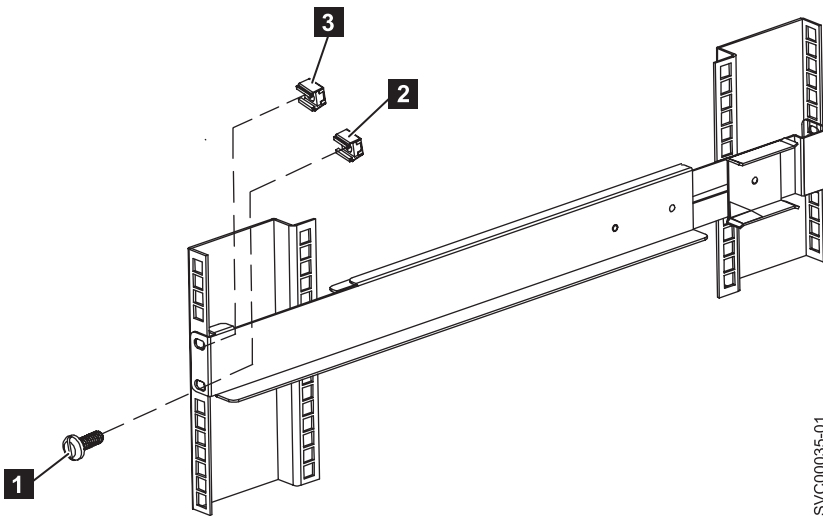

Figure 322. Removing the front rail on the 2145 UPS-1U
3. Remove the clip nut from the top hole of the rail (**3** in Figure 322).